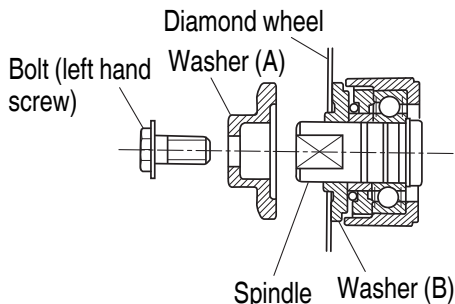

Fig. 2
- (2) As shown in **Fig. 2**, the concave portions of washers (A) and (B) must be on the diamond wheel side.
- (3) Thoroughly clamp the bolt.